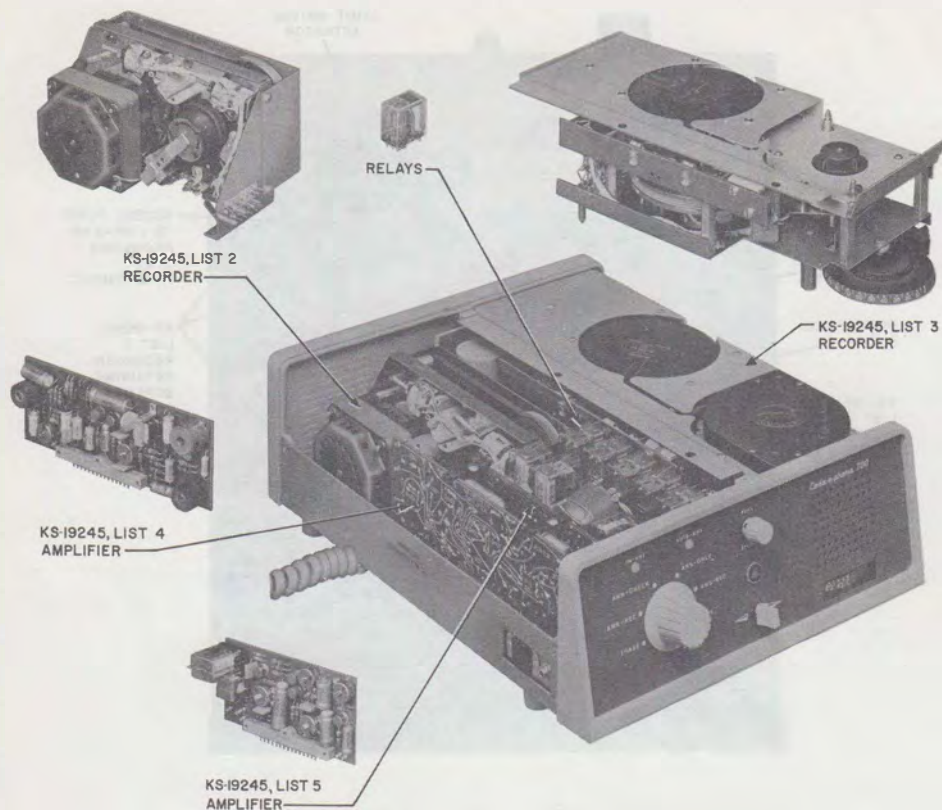

Fig. 3—KS-19245, List 1 Telephone Answering Set Top Cover Removed
- (1) Remove top cover:
- (2) Remove List 2 recorder (Fig. 3):
- (1) Remove List 6 cartridge, as described in 5.01.
- (2) Remove four screws and remove side cover.
- (3) Remove top cover, 2.01.
- (4) Remove List 3 recorder (Fig. 3):
- (1) Remove top cover of answering set, 2.01.
- (2) Loosen retaining screws of the circuit board retainers.
- (3) Remove relay from its plug-in socket (Fig. 3).